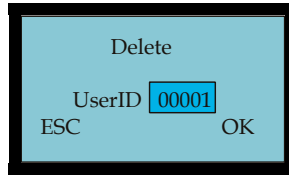

Figure 2-81 Delete Enrolled User ID
6. Press **OK** to select the User ID (see **Figure 2-81**). Use the keypad and/or the ▼ or ▲ buttons to navigate to the desired User ID. Press **ESC** to return to the User Manage menu.